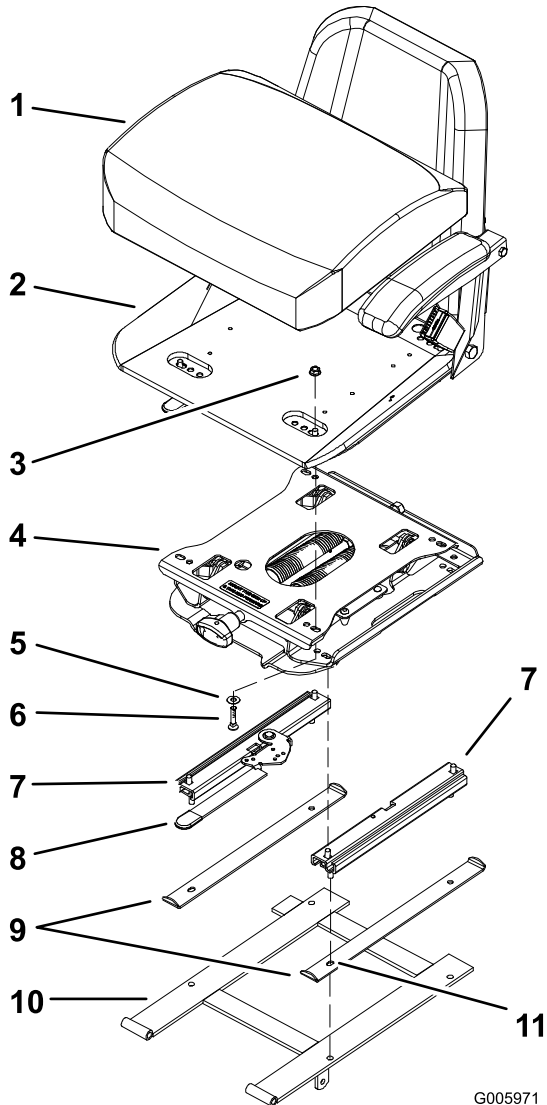

Figure 8
- Place the seat stops on the seat mounting frame so that the bent ends are facing up and the slots are forward (Figure 8).
- Install the seat tracks onto the seat stops and mounting frame (Figure 8).
- Position the seat suspension assembly with the front holes onto the studs in the seat tracks and the weight adjustment knob facing the front (Figure 8). Use the four flange nuts removed previously to secure the seat suspension to the tracks. Note: If the seat suspension has two sets of mounting holes, use the outside set of mounting holes.